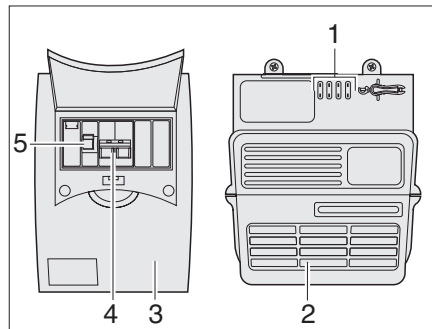

Fig. 92 Power pack and automatic circuit breaker
Fuse box The 230 V fuse box (Fig. 92,3) is mounted next to the power pack (Fig. 92,2).
The main fuse (Fig. 92,4) and a residual-current circuit-breaker (Fig. 92,5) are located in the fuse box (Fig. 92).
The residual current circuit-breaker (Fig. 92,5) measures the current flow of the current feed and return lines. If the two lines are equivalent, the residual-current circuit-breaker does not become active. If there is a difference between the lines the breaker interrupts the current flow immediately. This prevents dangerous electrical accidents.
- Switch the main switch (Fig. 92,4) upwards to the "ON" position.
- Switch the residual-current circuit-breaker (Fig. 92,5) upwards to the "ON" position.